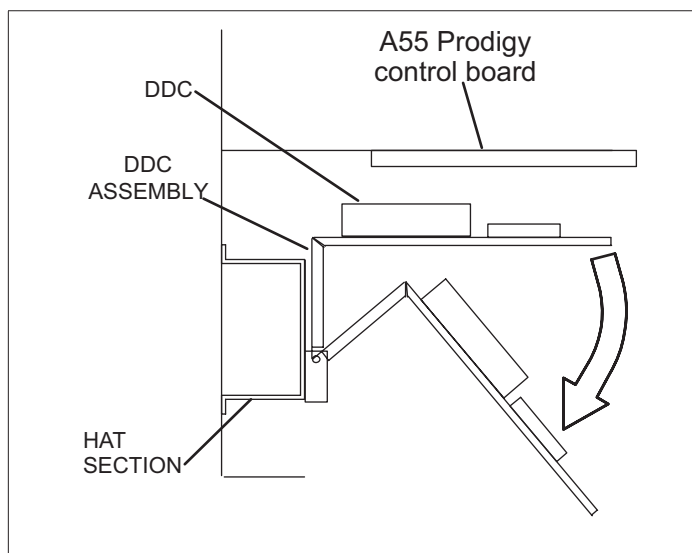

Figure 5. 240 Units – Accessing DDC (Top View)
3. If the NOVAR 3051 DDC is replacing a NOVAR 2024 DDC, remove four screws attaching 2024 DDC to mounting panel and replace with 3051 DDC, then proceed to "Figure 5. 240 Units – Accessing DDC (Top View)" on page 2 for wire routing. If 3051 DDC is a new install, perform step 4 or 5 depending on unit size.
Pivot hinged panel away from A55 Prodigy control board to access DDC (see figure 5).